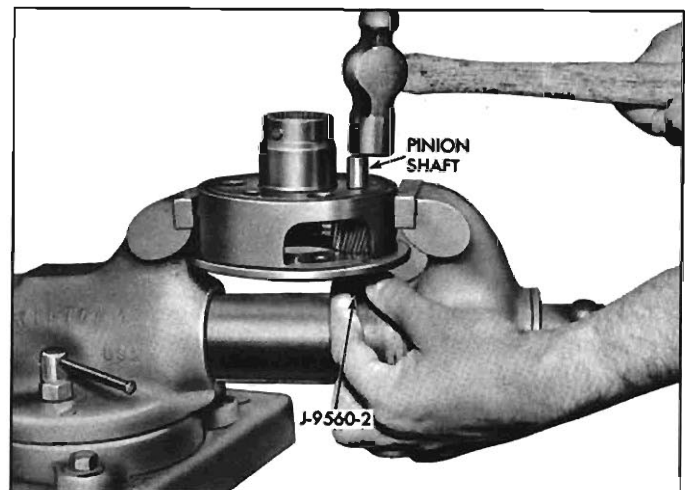

Fig. 6E-4—Installing Planet Pinion
14. Select the proper pinion shaft, lubricate the shaft and install it by tapping with a hammer (fig. 6E-4), pushing the assembling tool ahead of it.